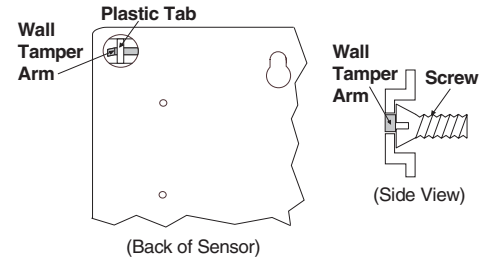

Figure 3. Wall Tamper Switch
- Enable the wall tamper switch by removing the plastic tab on the back of the sensor using the needle-nose pliers (see Figure 3).